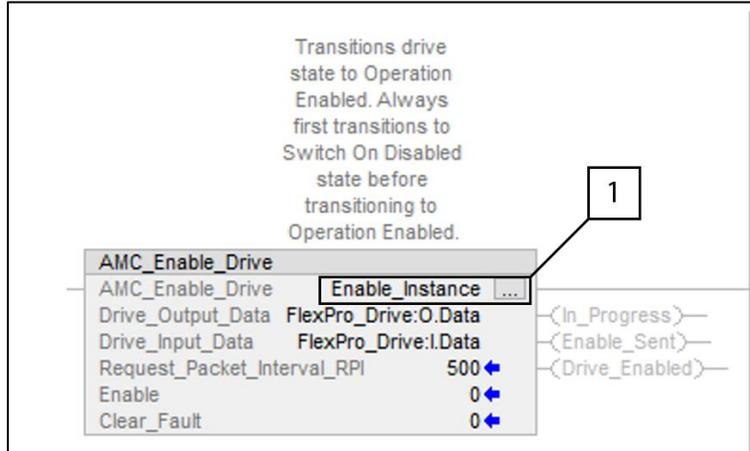

Figure 15 AMC_Enable_Drive Screen
3. Create and name the first instance tag, **Enable_Instance** (Figure 15 [1]), with any name. In this example, the data type will be named **AMC_Enable_Drive**.